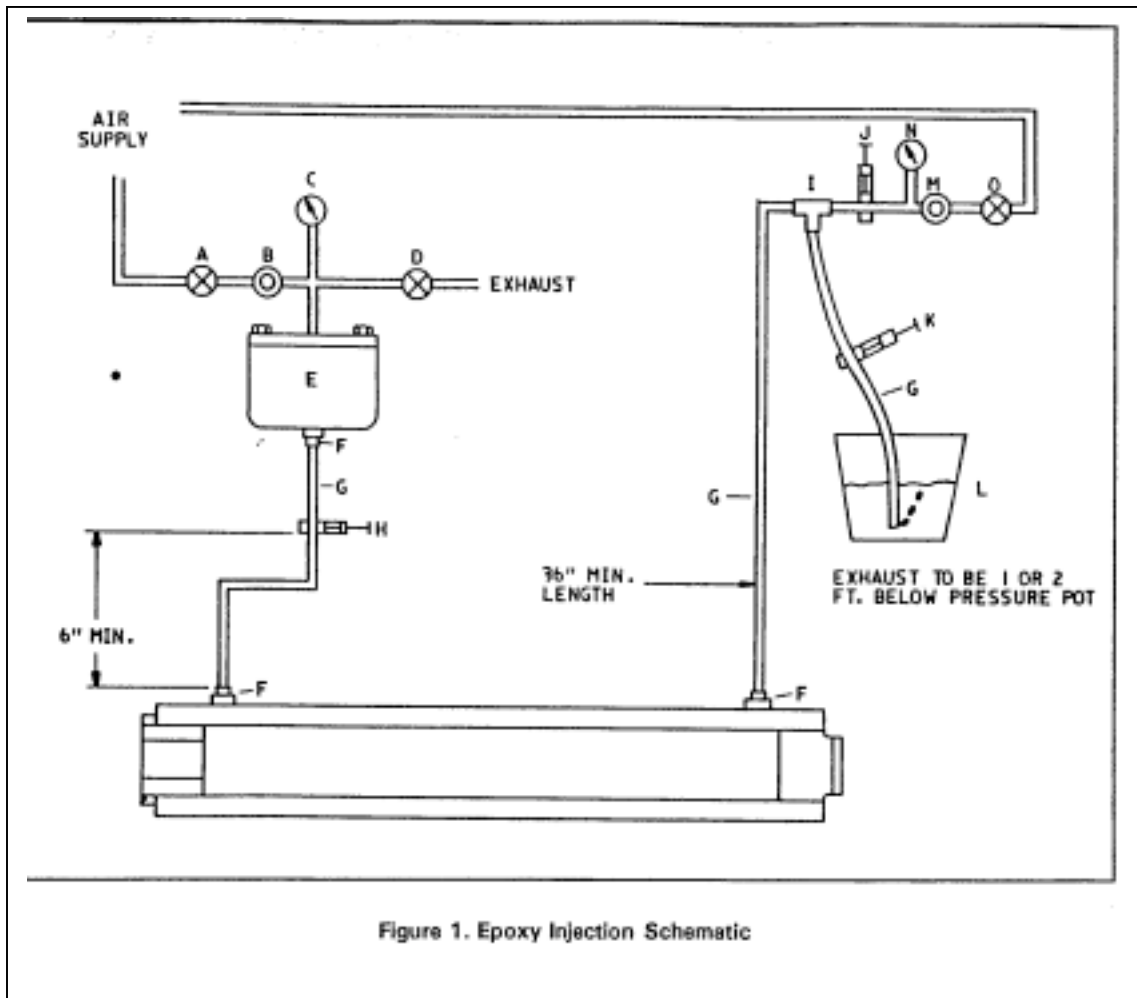

Figure 1. Epoxy Injection Schematic
Materials: (See Figure 1 on Page 7)
1. Pipe and fit as per Figure 1
2. Valve (A) and (O) to be closed
3. Regulators (B) and (M) to be off
4. Valve (D) to be open
5. Close tubing clamps (H), (J), and (K)